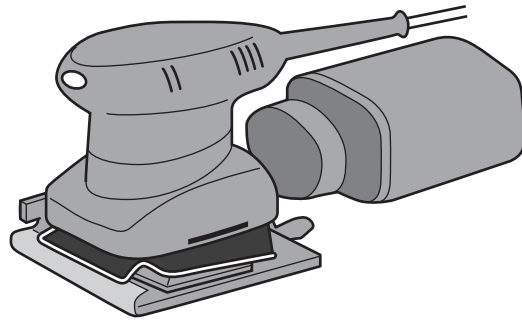

Fig. 12.6
- (g) Fig. 12.6 shows a palm sander that could be used to make the veneered surface of the desk top smooth before applying a clear varnish finish.